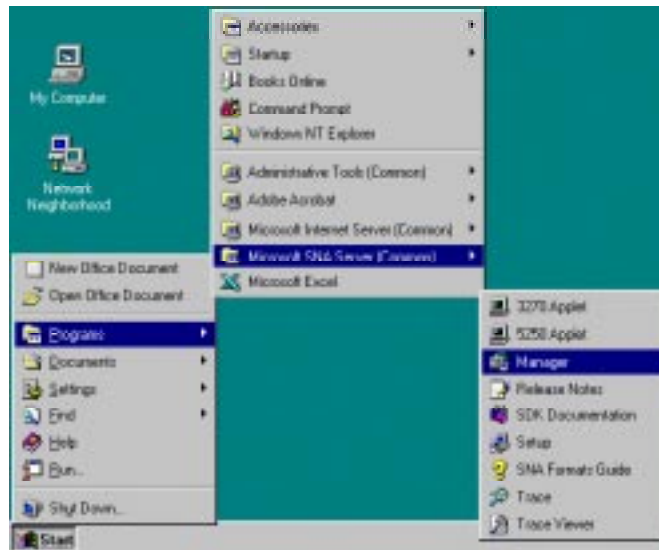

Figure 8-6. Invoking SNA Server Manager
1. Invoke the SNA Server Manager from Windows NT (Figure 8-6).